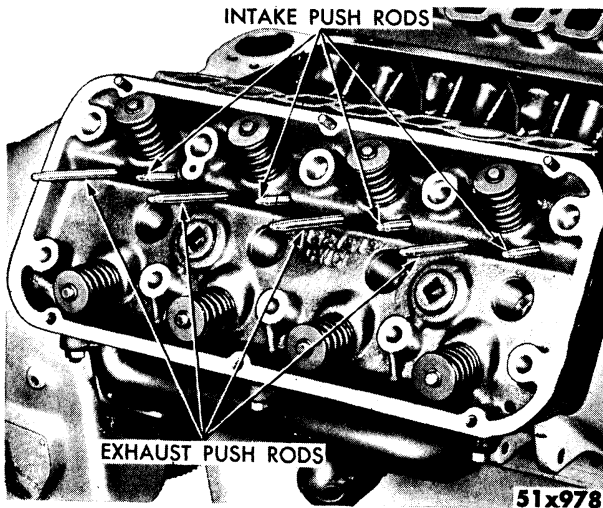

Fig. 156—Push Rods Installed In Head
- (10) Insert the cylinder head bolts into the brackets, with the short bolts toward the intake side.
- (11) Insert the push rods through the push rod holes in the heads—the short rods in the upper holes (intake) and the long rods in the lower holes (exhaust) in the heads, as shown in Figure 156.